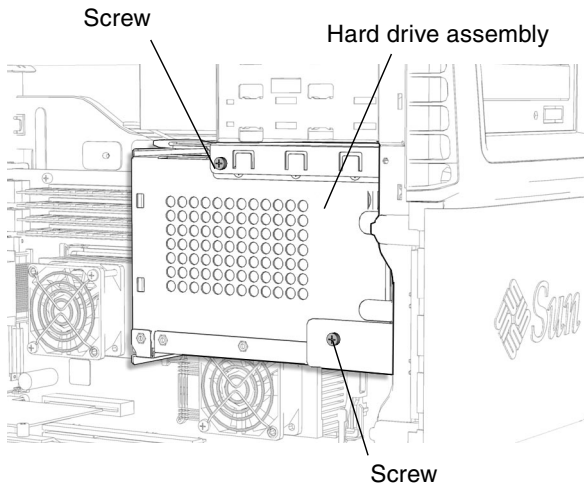

FIGURE 14-18 Installing the Hard Drive Assembly Screws
5. Install the two screws for the hard drive assembly (FIGURE 14-18).